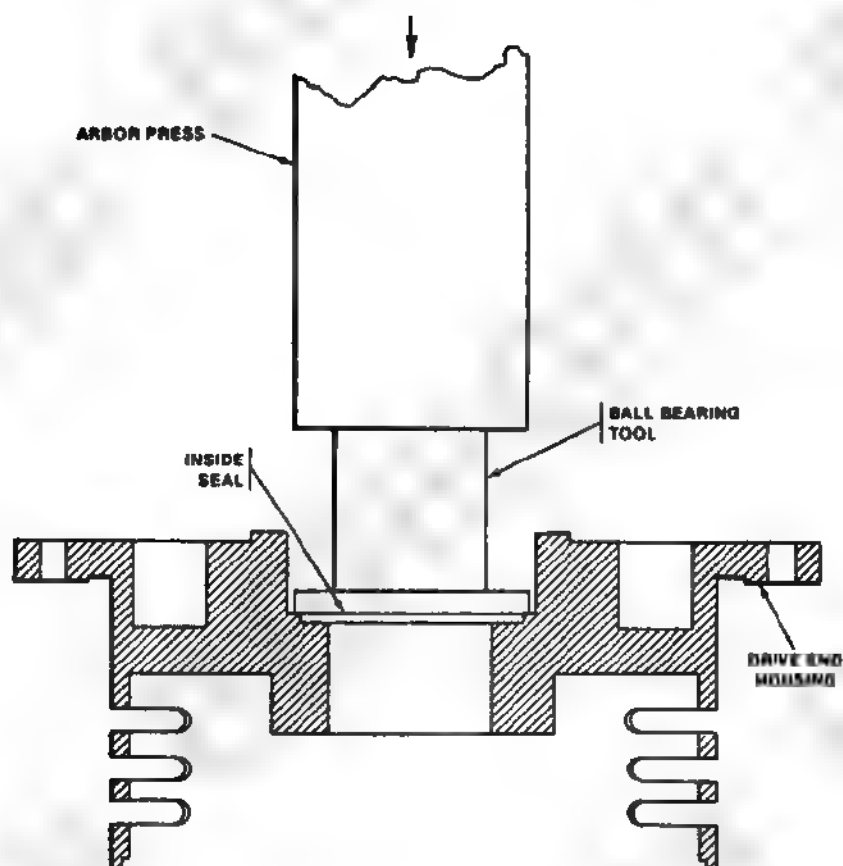

Figure 3-9. Assembly of Inside Seal in Drive End Housing Assembly
(c) Place ball bearing tool (fig. F-1) on top of inside seal (22) according to figure 3-9 . Press in seal flush with bottom of bearing bore.